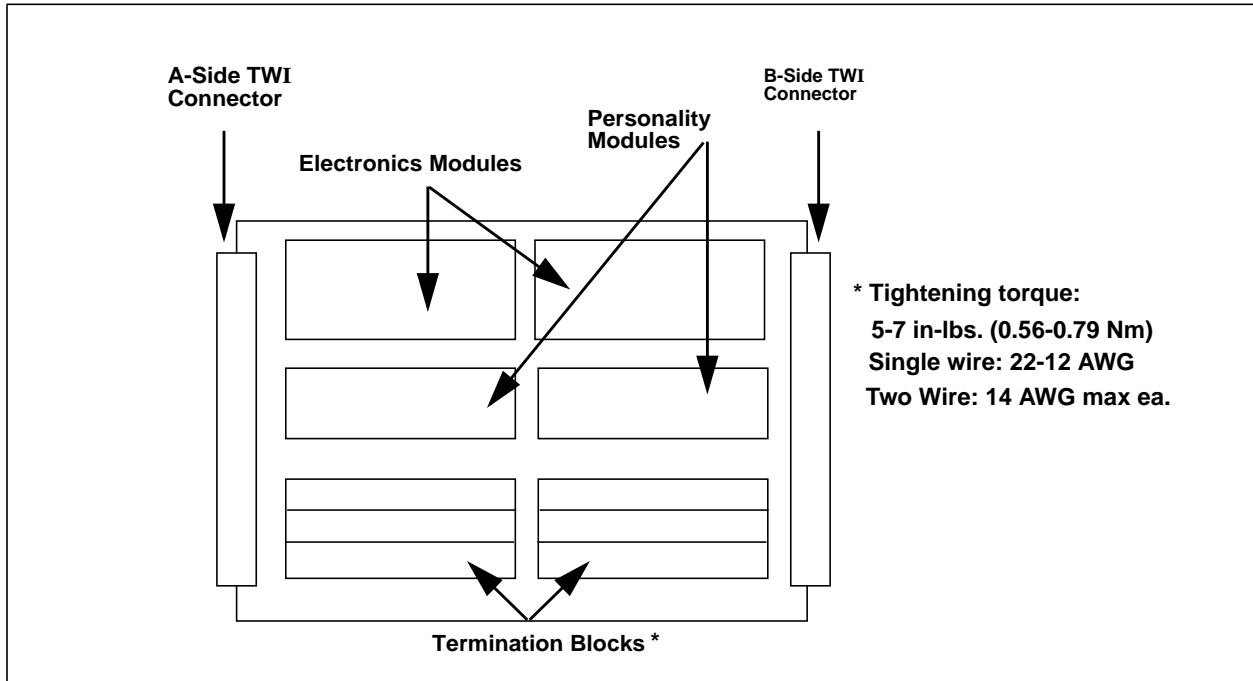

Figure 27-10. Ovation Standard I/O Modules and Base Units
- Standard I/O Modules and Bases - Standard Ovation I/O modules which interface to field devices (refer to Figure 27-10).
- Standard I/O Modules and Base - Standard Ovation I/O modules which interface to remote field devices when placed in the Remote Node cabinet (refer to Figure 27-10).
- Standard I/O Modules and Base - Standard Ovation I/O modules which interface to field devices (refer to Figure 27-10).